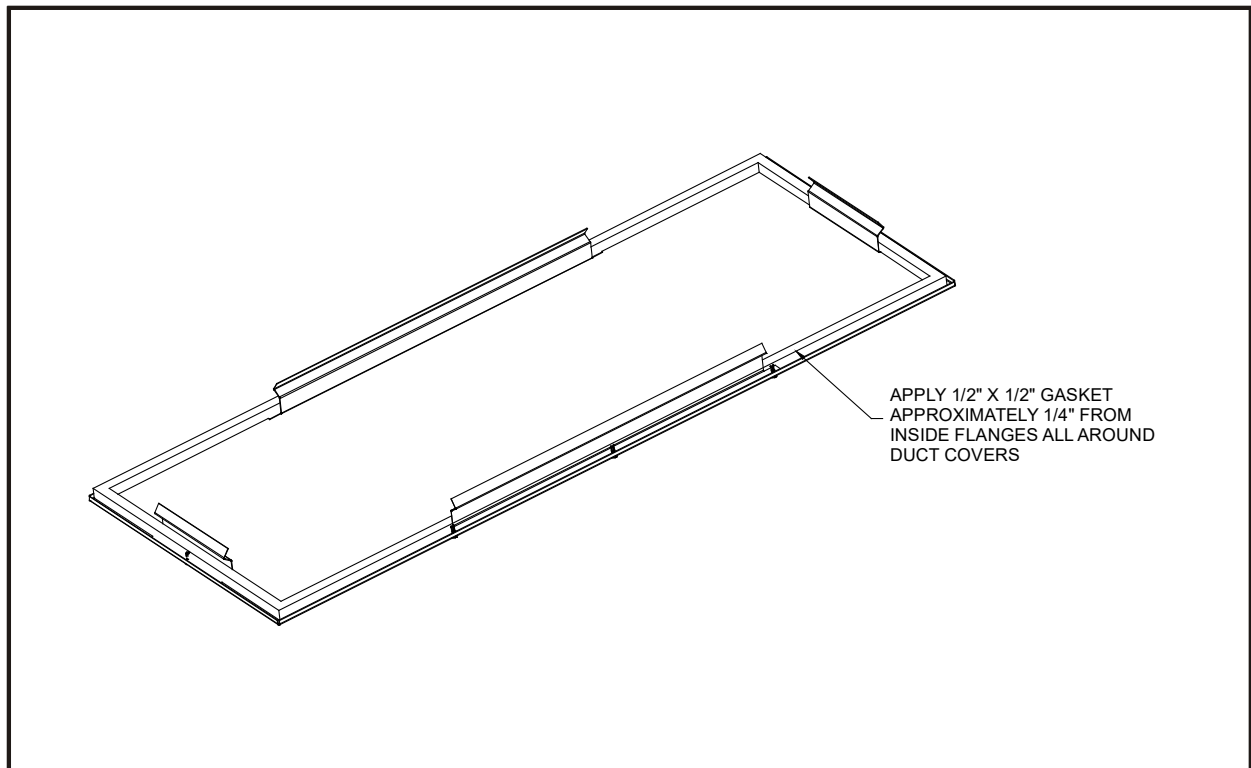

Figure 2
- Place the provided gasket material completely around the perimeter of the clip side on both panels, as shown in Figure 2.